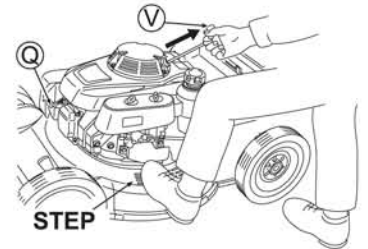

Fig. 12
1. Install Plug cap (Q). (See Fig. 12)
4. To start the engine, step one foot on the step of the housing, lightly pull Starter knob (V) and temporarily stop at a position where you feel heavy to pull the knob, and then powerfully pull it from that position. After that, return Starter knob (V) slowly. (See Fig. 12)